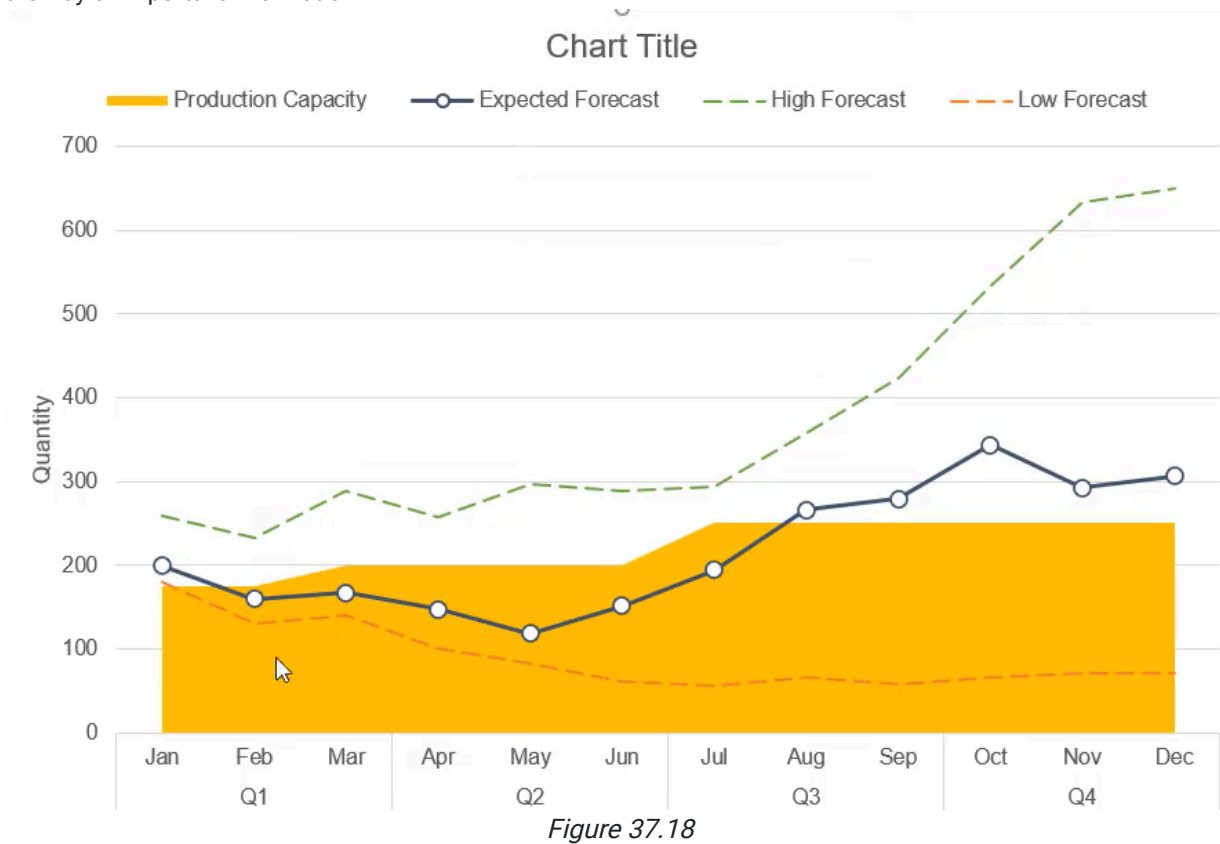

Figure 37.18
3. The chart should reflect **Figure 37.18**. The new information has been pushed to the background so it doesn't get in the way of important information.